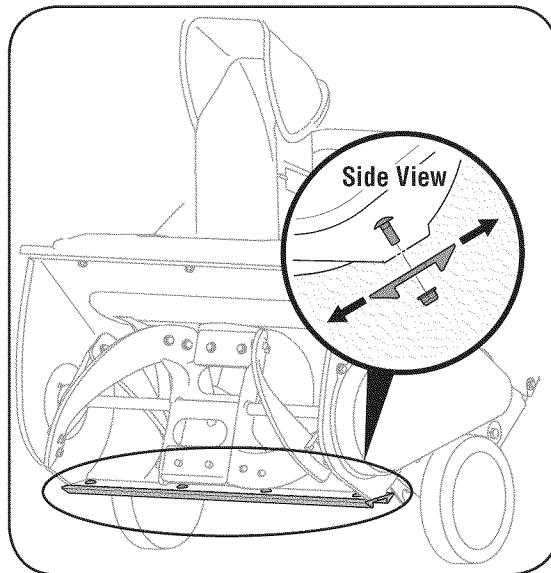

Figure 6-1
2. To adjust, tip the snow thrower back so that it rests on the handle. Loosen the four lock nuts and bolts which secure the shave plate to the housing. See Figure 6-1. Move the shave plate to desired position and retighten the nuts and bolts securely.
The shave plate is attached to the bottom of the auger housing and is subject to wear. It should be checked periodically. There are two wearing edges and the shave plate can be reversed. Refer to Figure 6-1.